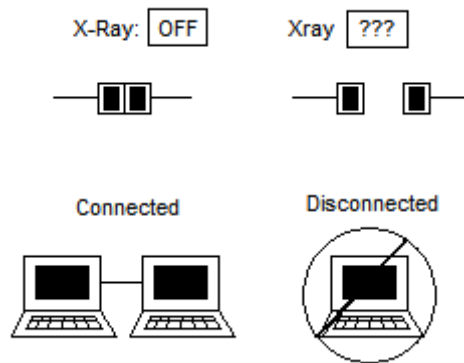

FIGURE A-1 CONNECTION INDICATORS
3. Locate the GE Connect symbol in the bottom right corner of the monitor screen (Figure A-1). The symbols vary with the model of the Cardiac Monitor.